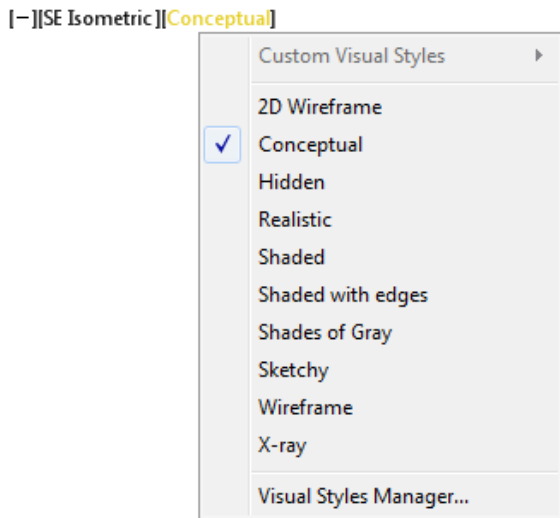

Figure Step 9A
Step 9 Click the Visual Style menu and in the pull down list, set the current visual style to Conceptual. (Figure Step 9A and 9B)